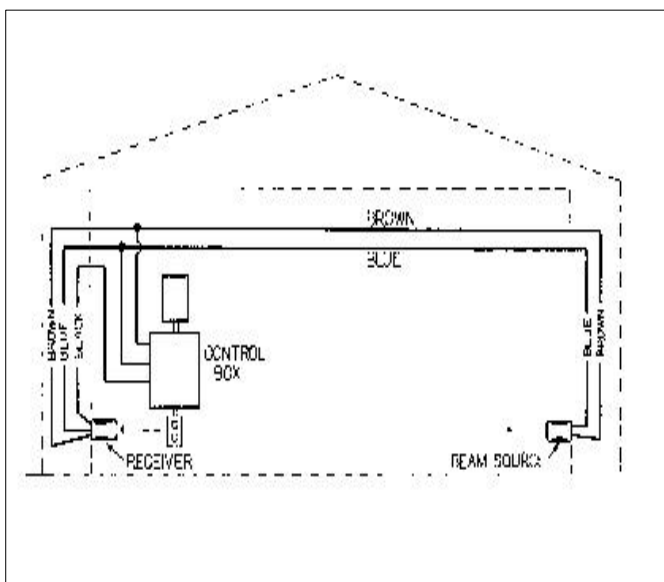

Figure 67 Photo sensor installation
5. Be sure electrical power is disconnected. Run wiring up over the door to control box and make necessary connections per **Figure 67 Page 40**.